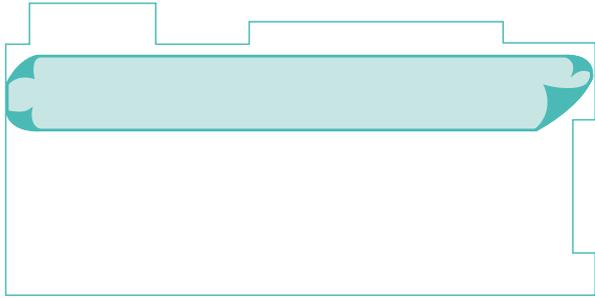

Figure 1 Lining up the first sheet
- ▶ Adjust the lie of the sheet so that the inner edge is parallel with the axis of the room (fig. 1).